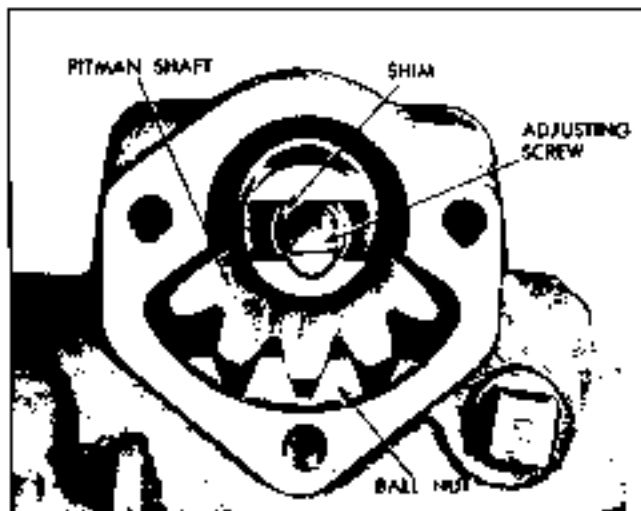

Fig. 9-54 Position of Pitman Shaft and Ball Nut
8. Install pitman shaft and adjusting screw with sector and ball nut teeth positioned as shown in Fig. 9-54.